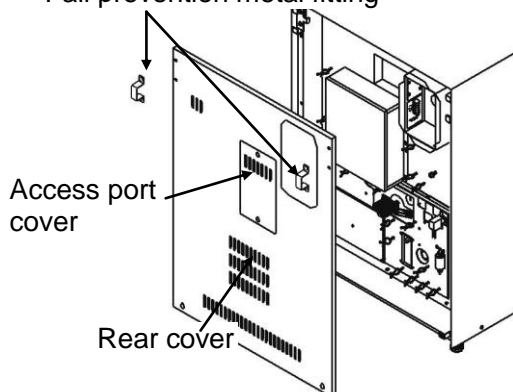

Figure 2
3. Remove rear cover in figure 2.